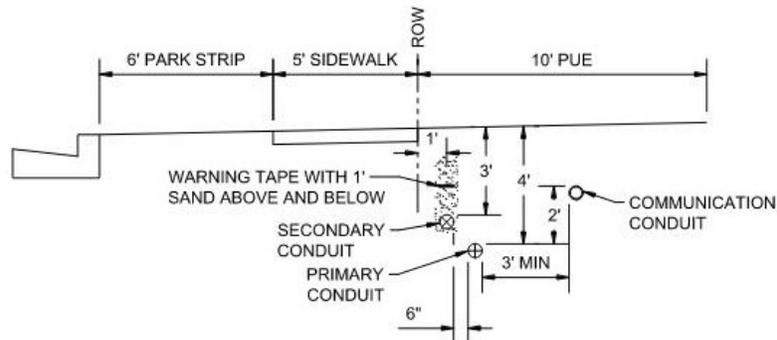

Figure 7-5.1 – Joint Trench Use Separation Requirements
a. Telephone, TV, and other electrical communication cables may be placed in the same trench as the Utility cables, provided that the installation is in accordance with the Utility specifications and is mutually agreed upon by all parties concerned. See Figure 7-5.1.